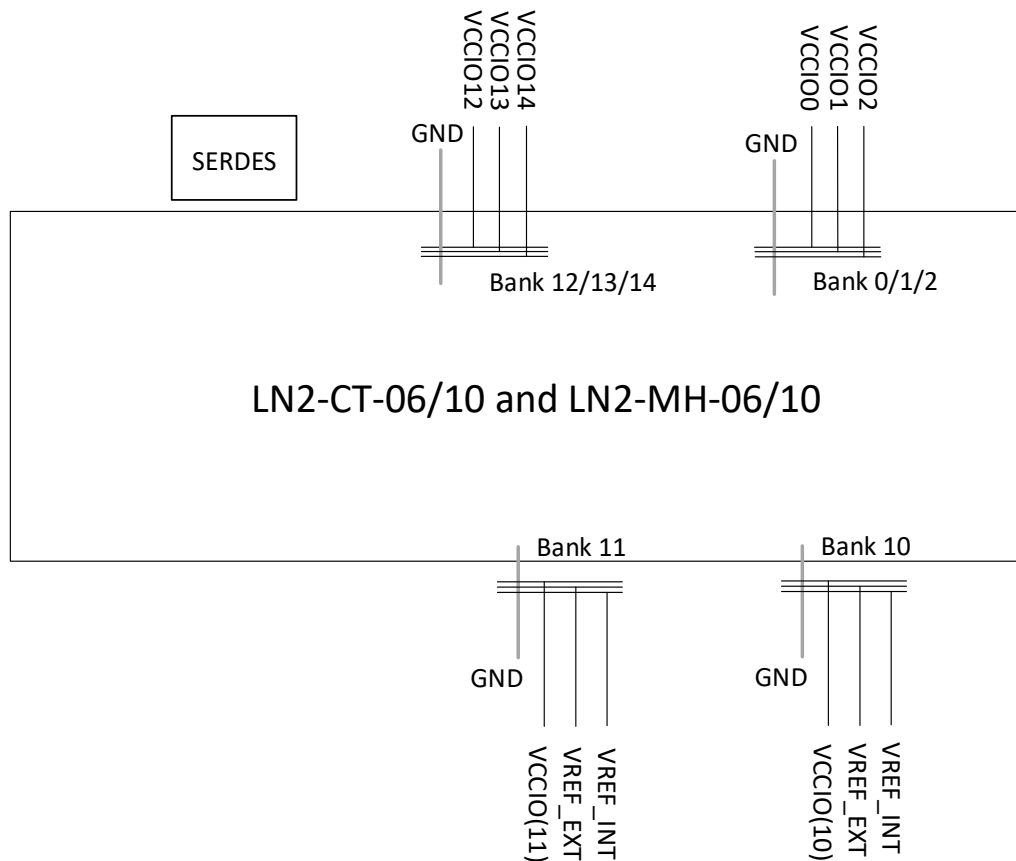
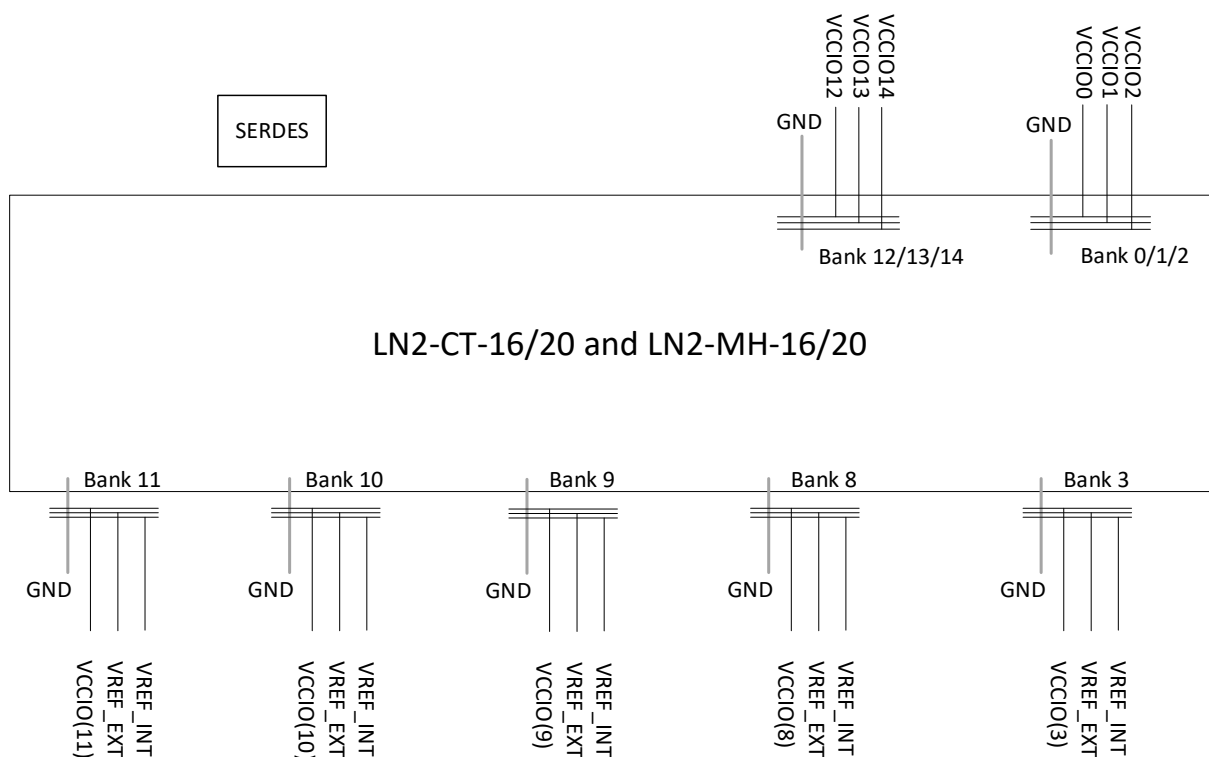

Figure 3.1. LN2-CT-06/10 and LN2-MH-06/10 sysI/O Banking
Figure 3.2. LN2-CT-16/20 and LN2-MH-16/20 sys/O Banking
LN2-CT-16/20 and LN2-MH-16/20 devices have 11 banks and LN2-CT-06/10 and LN2-MH-06/10 devices have eight banks. Top side banks are wide range (WR) I/O supporting V_{CCIO} up to 3.3 V. There is a total of 52 I/O, distributed into three WR I/O banks. Additionally, LN2-CT-16/20, LN2-MH-16/20, LN2-CT-06/10, and LN2-MH-06/10 devices have three more WR I/O banks, amounting to a total of six WR I/O banks with 104 I/O. Bottom side banks are high performance (HP) I/O supporting V_{CCIO} up to 1.8 V. Each HP bank has 52 I/O. In addition, high performance banks support internal trainable VREF signal, VREF_INT, and external VREF signal, VREF_EXT. External VREF enters the bank through the configurable I/O. Figure 3.1 shows the location of each bank of LN2-CT-06/10 and LN2-MH-06/10 devices, six banks on the top side and two banks on the bottom side. Figure 3.2 shows the location of each bank of LN2-CT-16/20 and LN2-MH-16/20 devices, six banks on the top side and five banks on the bottom side.